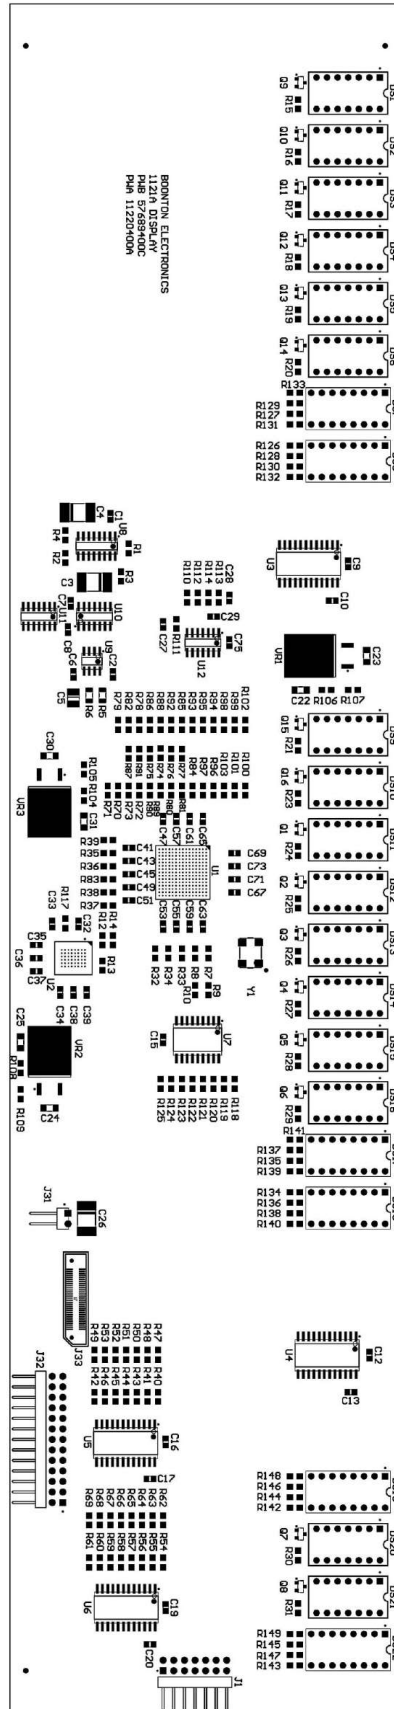

Figure 6-14. PWA '1121A' Display (A12)
**11220400A REV A PWA DISPLAY 1121A (A12) (Figure 6-14)**